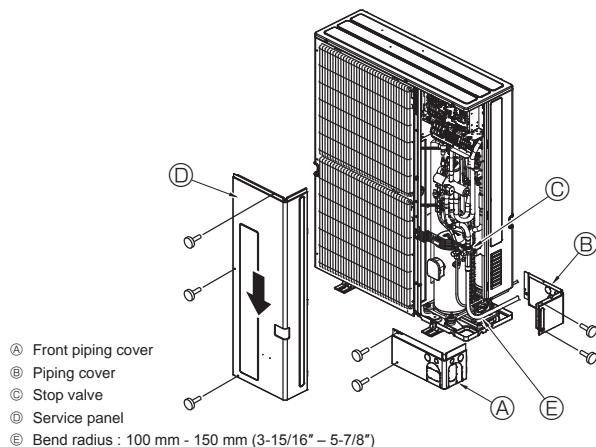

Fig. 4-5
- ④ Valve
- ⑤ Unit side
- ⑥ Service port
- ⑦ Handle
- ⑧ Cap
- ⑨ Completely closed
- ⑩ Completely open
- ⑪ Refrigerant piping side (On-site installation)
- ⑫ Direction the refrigerant flows in
- ⑬ Wrench hole
4.4. Refrigerant piping (Fig. 4-5)